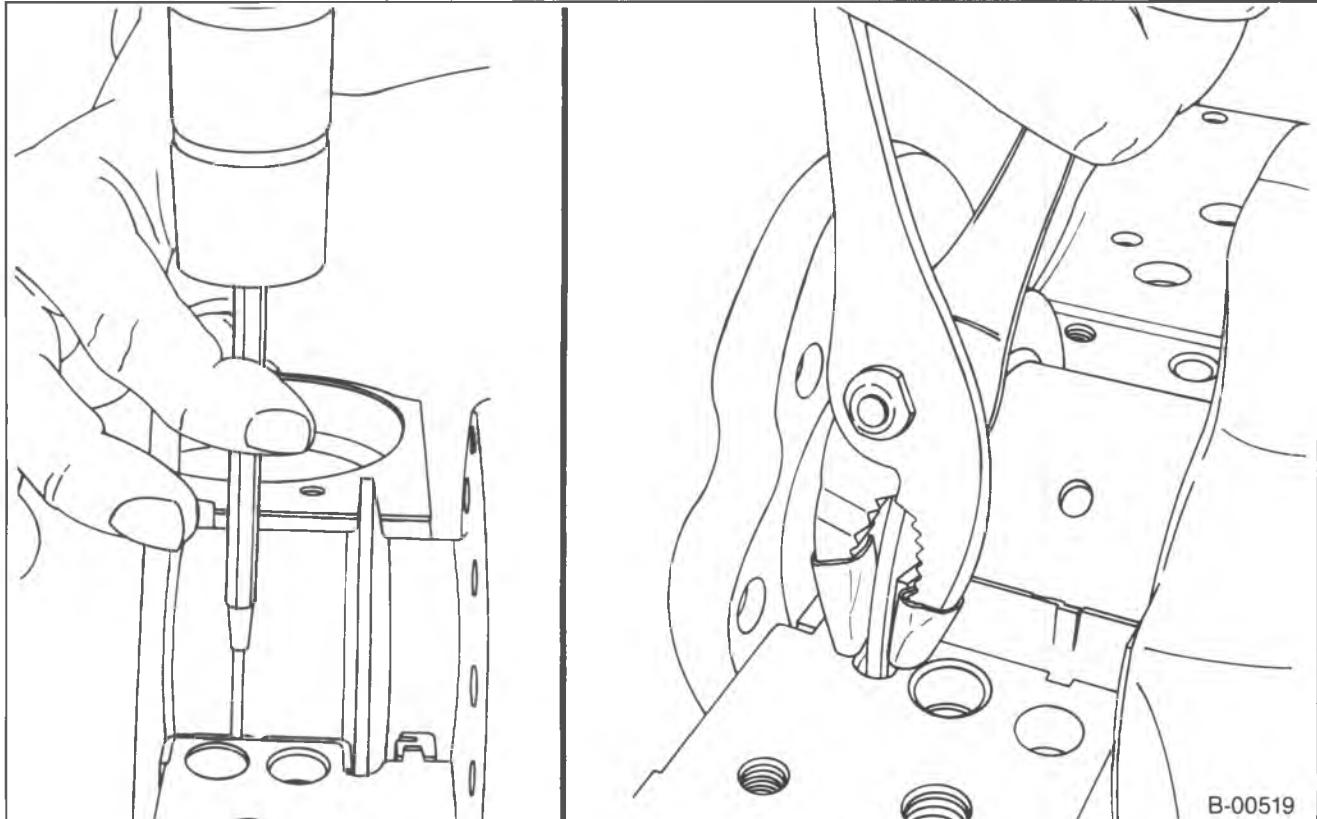
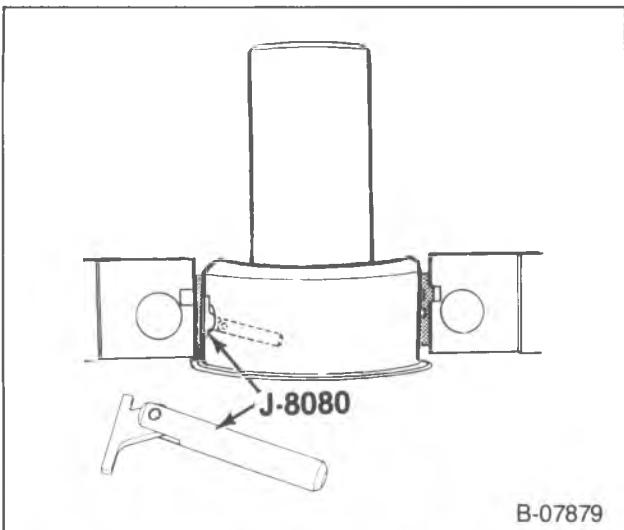

Figure 21—Removing the Upper Rear Main Bearing Insert
Figure 22—Removing the Upper Main Bearing Inserts
- Use a small brass drift and hammer. Tap on the insert, on the side opposite the bearing tang, until the insert rotates out of position (figure 21).
- Use a pair of pliers with the jaws taped to prevent damage to the crankshaft. Clamp the insert to the crankshaft flange (figure 21). Rotate the crankshaft (154) to remove the bearing insert.
4. Upper main bearing inserts (130).
- Insert J-8080 into the crankshaft (154) oil hole (figure 22).